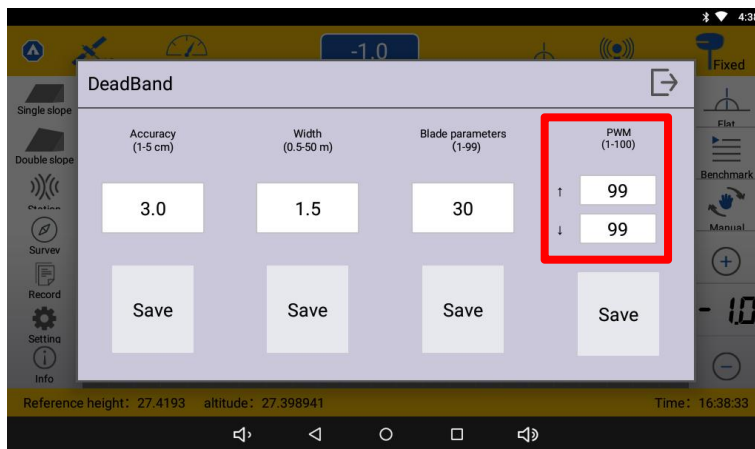

Figure 51
- Enter the Setting and adjust the PWM value to 60—100. (Figure 51)